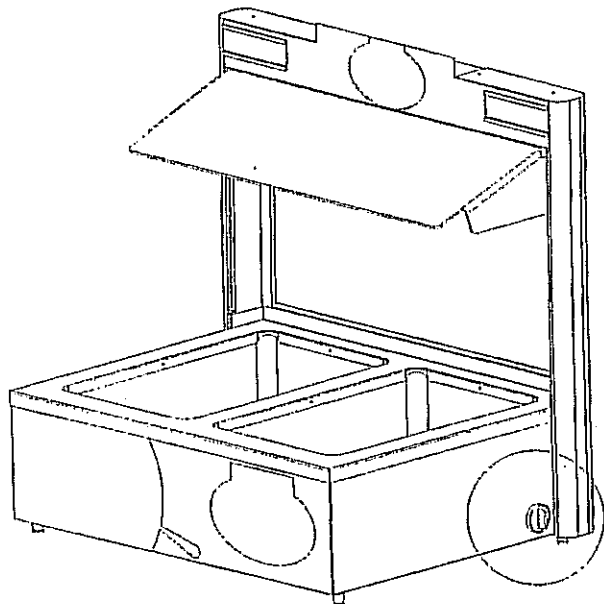

Figure 3.3 Right Heat Control
4. Place control knob(s) to HI (figures 3.3 and 3.4, pg. 8).